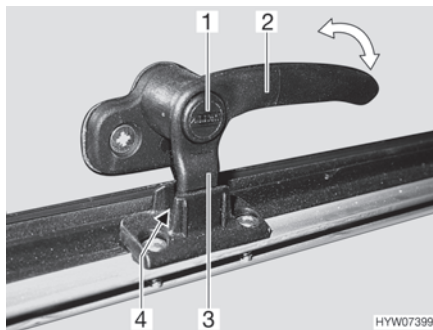
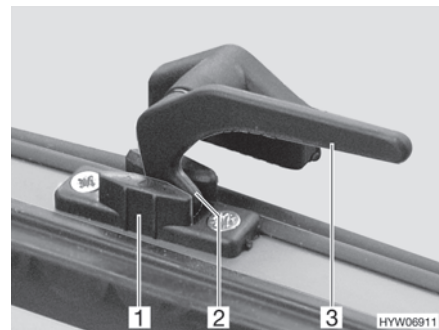

Fig. 90 Catch lever with safety knob in "continuous ventilation" position
Fig. 91 Catch lever in "continuous ventilation" position
- "Continuous ventilation" (Fig. 90 and Fig. 91)
- Press and hold the security button (Fig. 90,1), if present.
- Turn all catch levers (Fig. 90,2 or Fig. 91,3) a quarter turn towards the centre of the skylight.
- Return all catch levers to their initial position. The locking catch (Fig. 90,3 or Fig. 91,2) has to be moved into the recess of the skylight lock (Fig. 90,4 or Fig. 91,1).